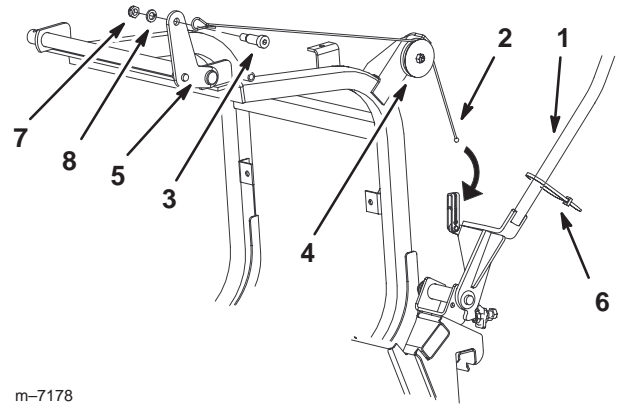

Figure 8
1. Install the new cable to the top of the bagger with the previously removed shoulder bolt, washer and nut (Fig. 8).
2. Install the cable into the pulley and tighten the nut (Fig. 8).